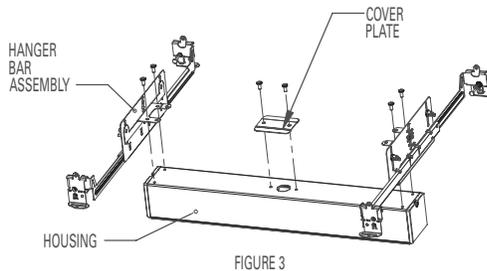

FIGURE 3
5. Install the housing using the hanger bars. The hanger bars can be extended up to 25.5"; and are designed to be nailed or screwed to studs, clipped onto the T-grid of a suspended ceiling, or be suspended from wires. If the hanger bars need to be configured perpendicular to the fixture, the hanger bar brackets can be attached at the ends of the fixture using the screws provided (See Figure 3).